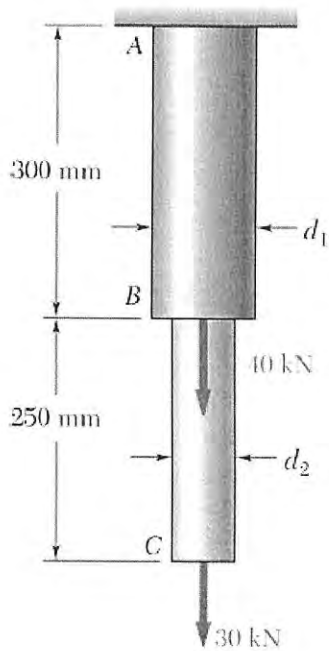

Figure Q1
**Q1** (a) **Figure Q1** shows two solid cylindrical rods which are joined at B. The 30 kN and 40 kN loads are applied to the cylindrical rods as shown in the figure. If the average normal stress must not exceed 175 MPa in rod AB and 150 MPa in rod BC, determine:
(b) Referring to **Figure Q1**, rod AB is made of steel and rod BC of brass. The modulus of elasticity,  $E$  of steel and brass are 200 GPa and 105 GPa, respectively. The values of  $d_1$  and  $d_2$  obtained in a(ii) above are replaced with 50 mm and 30 mm, respectively. If both tension loads are replaced with equal magnitude of compression loads, determine: